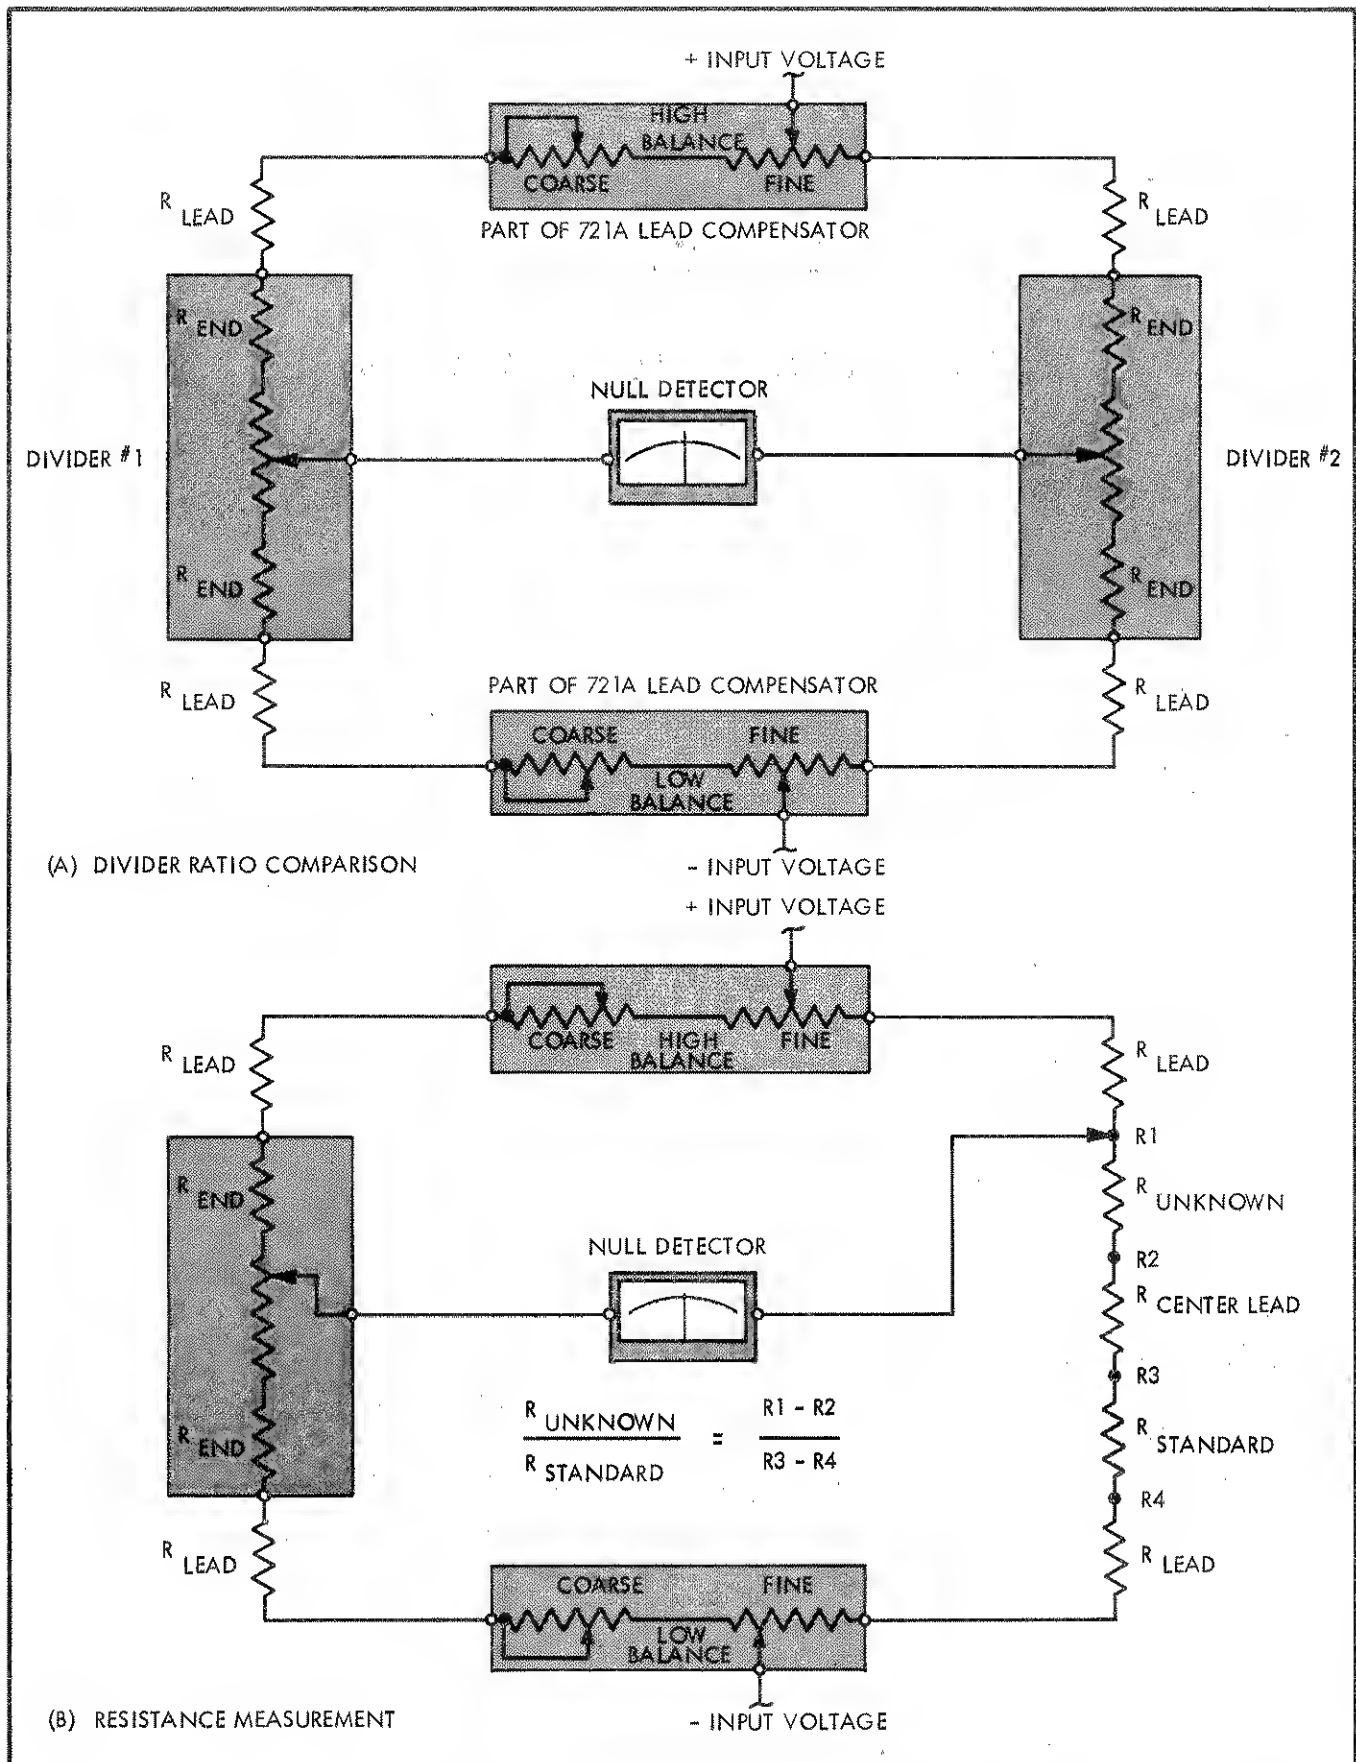

Figure 2-1. RATIO SYSTEM CONFIGURATION
2-19. The Model 721A Lead Compensator was designed to compensate for lead resistance and end resistance in a high-accuracy ratio system. Figure 2-1 shows the two basic configurations of such a system. Lead compensation is essential to accuracy of measurement in both. In Figure 2-1 (A), the ratios of two resistive dividers are compared. This is the typical setup used for divider calibration. The coarse compensation is added in series with the standard divider indicating that it has a higher input resistance than the test divider. If the input resistance of the test divider were higher, the coarse compensation would be switched to the other side. In Figure 2-1 (B), an unknown resistance is measured by using a standard divider to compare it to a standard resistor. Notice that the standard resistance and the unknown resistance form a voltage divider. For this type of measurement, the lead compensator is used to set point R_4 equal to zero setting on the standard divider and to set point R_1 equal to 1.0 setting on the standard divider. The standard divider settings at points R_2 and R_3 at null are then determined and used to compute the unknown resistance from the formula: